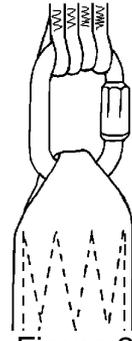

Figure 2.
STEP 3.) Attach the canopy line groups to the correct MAIN OR RESERVE risers of the harness/container system by folding the loop of the MAIN or RESERVE risers (to the inside) to the interior width of the connector link. (See Figure 2.)